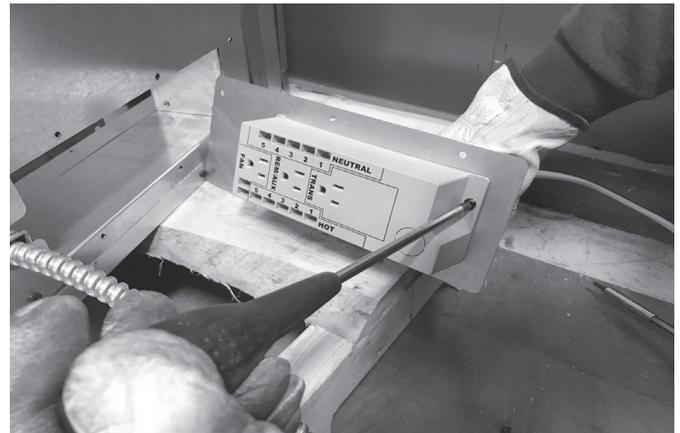

Figure 8.6 Junction Box Removal
- Remove the screw attaching the junction box to the cover plate, rotate the junction box inward to disengage it from the cover plate. See Figure 8.6.